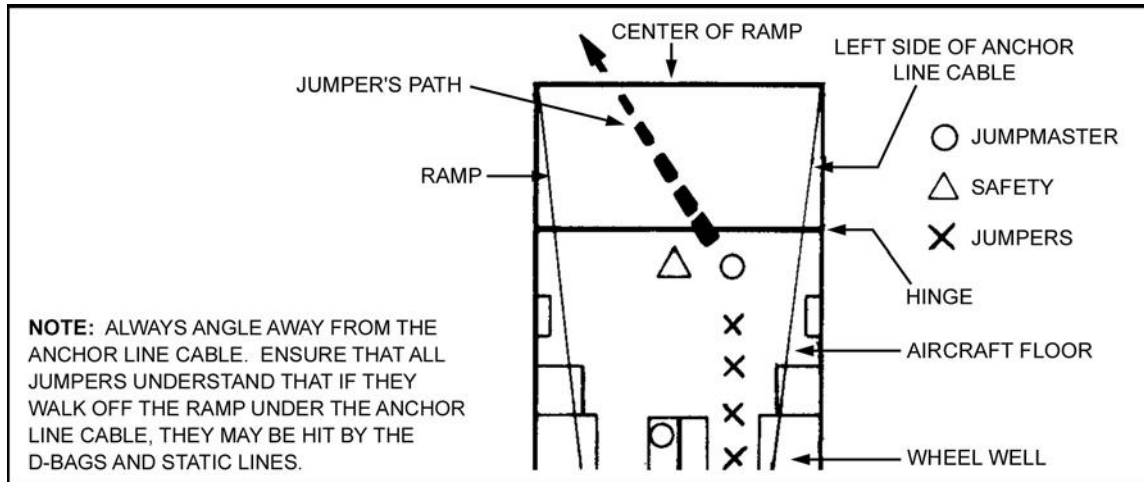

Figure 16-6. Personnel locations.
(3) Door check is not required. If using GMRS, the JM must spot the ground marking from the left side of the ramp.
(4) After giving the command STAND BY, the JM moves to the center edge of the ramp and exits on green light. The safety positions himself immediately behind the hinged portion of the ramp and controls the flow of parachutists.
(5) Each parachutist walks off toward the center of the ramp at an angle away from the anchor line cable (Figure 16-6, page 16-8).